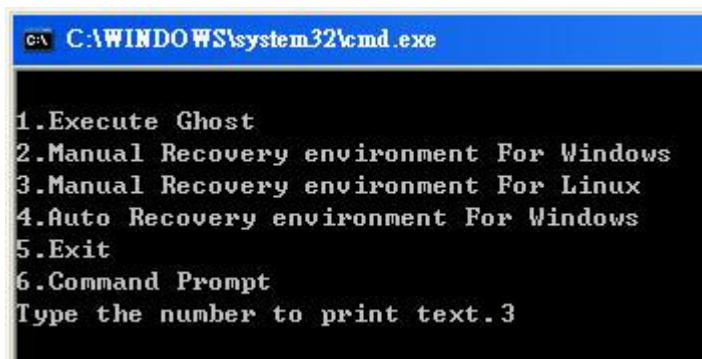

Figure B-30: Manual Recovery Environment for Linux
Step 4: **Build the recovery partition.** Press any key to boot from the recovery CD. It will take a while to launch the recovery tool. Please be patient. When the recovery tool setup menu appears, type <3> and press <Enter> (**Figure B-30**). The Symantec Ghost window appears and starts configuring the system to build a recovery partition. After completing the system configuration, press any key to reboot the system. Eject the recovery CD.